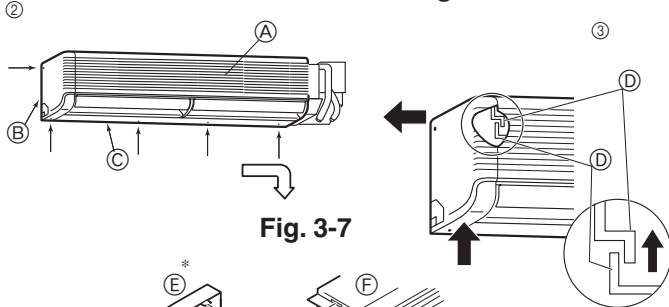
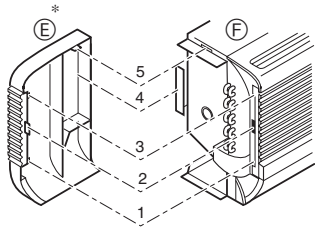

Fig. 3-7
Fig. 3-8
- (A) Right side panel
- (B) Through hole
- (C) On-site piping
- (D) Wall-fixing bracket ①
- ② Remove the five screws indicated by the arrows in the diagram. (Fig. 3-7)
- ③ Remove the left side panel, then the lower panel.
- (A) Grille
- (B) Left side panel
- (C) Lower panel
- (D) Catch
- (E) Side panel
- (F) Unit body
* Structure of the side panel and the unit body (Fig. 3-8)